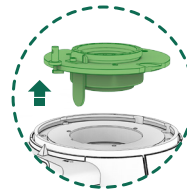

Fig. 9
12.3.6. Remove the upper holder by pulling upwards to access the grinding cavity, clean the interior with the help of a brush or vacuum cleaner and remove any coffee residue from the grinding cavity (Fig. 9).